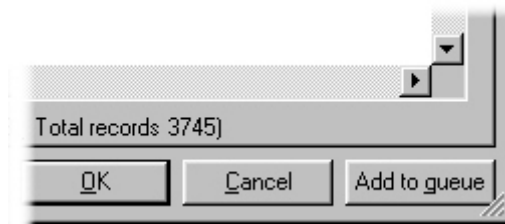

Figure 52
2. Click the **Add to queue** button, in the bottom right of the window (Figure 52).